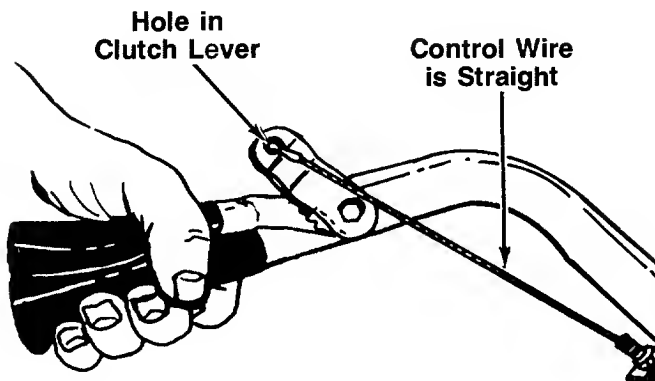

FIGURE 11.
3. With the clutch lever released (in the "up" position), adjust the bottom nut at the cable bracket so there is only a slight amount of slack in the control wire. Tighten the upper nut against the bracket. Squeeze the clutch lever against the handle. The control wire should now be straight. See figure 11.